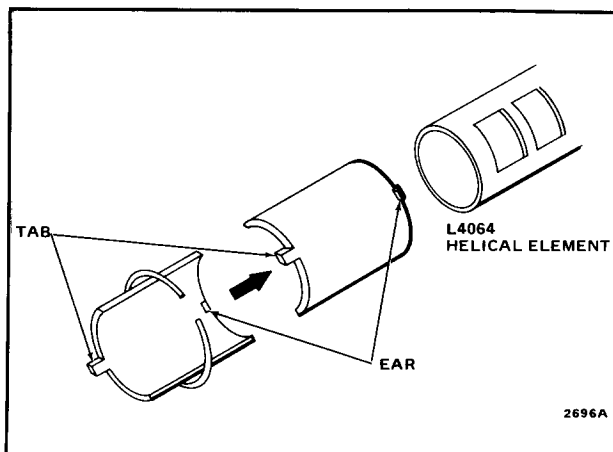

FIG. 7—USING SUPER TRADELINE ADAPTER.
1. Insert one-half of the split steel bushing through the wire ring (Fig. 7). It may be necessary to spread the ring slightly.